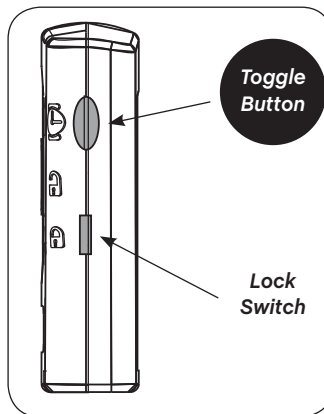

figure 11C: Select Duration
- C. Press the *Toggle Button* to select 1, 2, 3 or 4 hour treatment duration (as allowed by current battery charge) (Figure 11C).